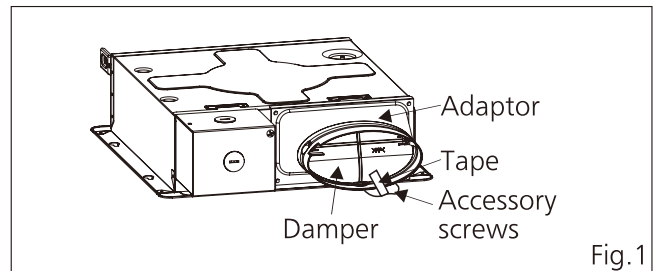

Fig.1
1. Before installation, please remove the tape which protects damper during shipping and accessory screws from duct adaptor, and check that the damper can open and close smoothly. (Fig.1)